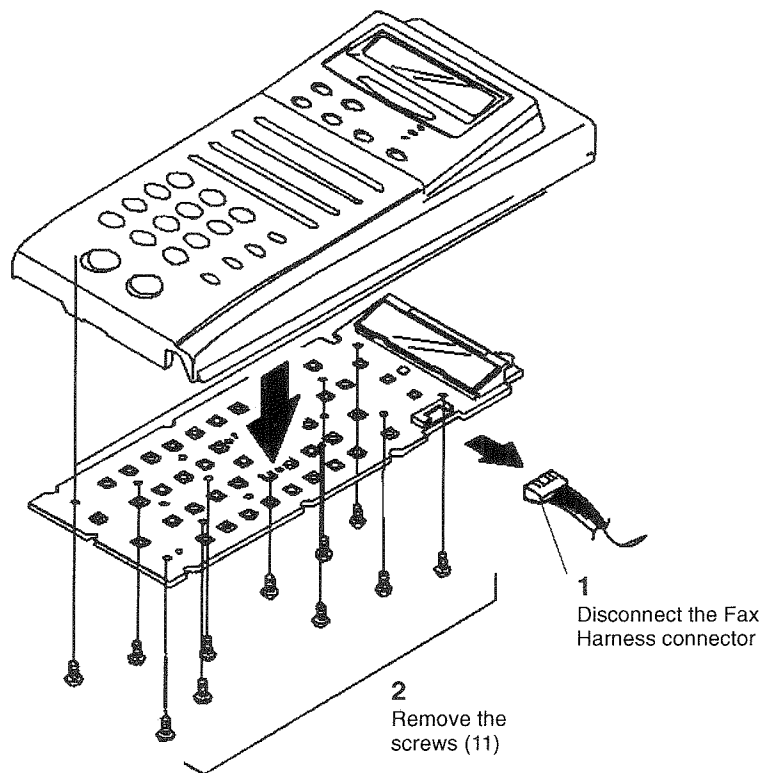

Figure 1 Removing the Fax Control Panel PWB
2. (Figure 1) Turn the Fax Control Panel face down and remove the Fax Control Panel PWB.